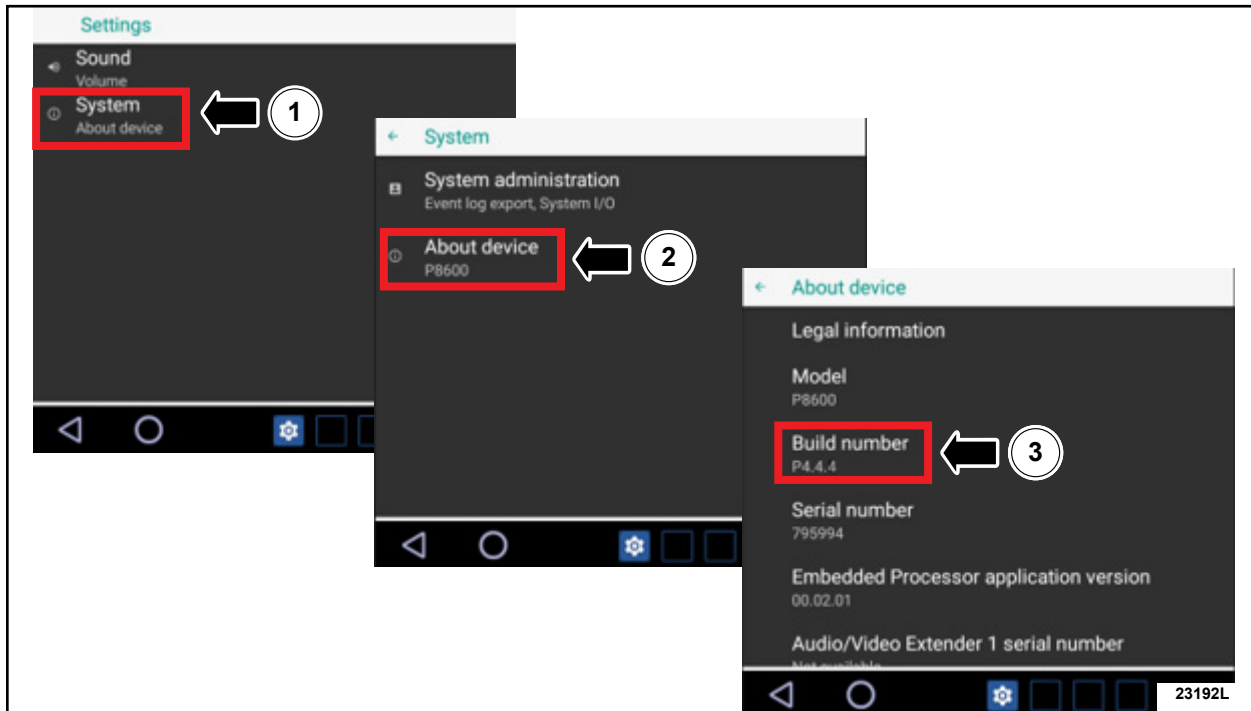

FIGURE 12
16. Select **System**, then **About Device**, and verify that the **Build Number** is the correct software level **P4.4.4**. See Figure 12. This completes the FSA.